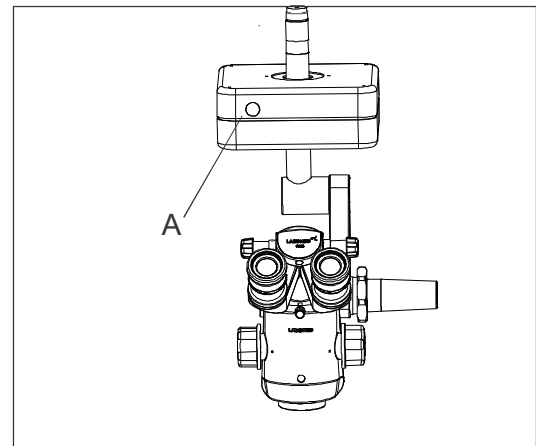

Fig. 13
The X-Y coupling is provided with a recentering facility. When you press the red activator button shown as (A) in fig. 13